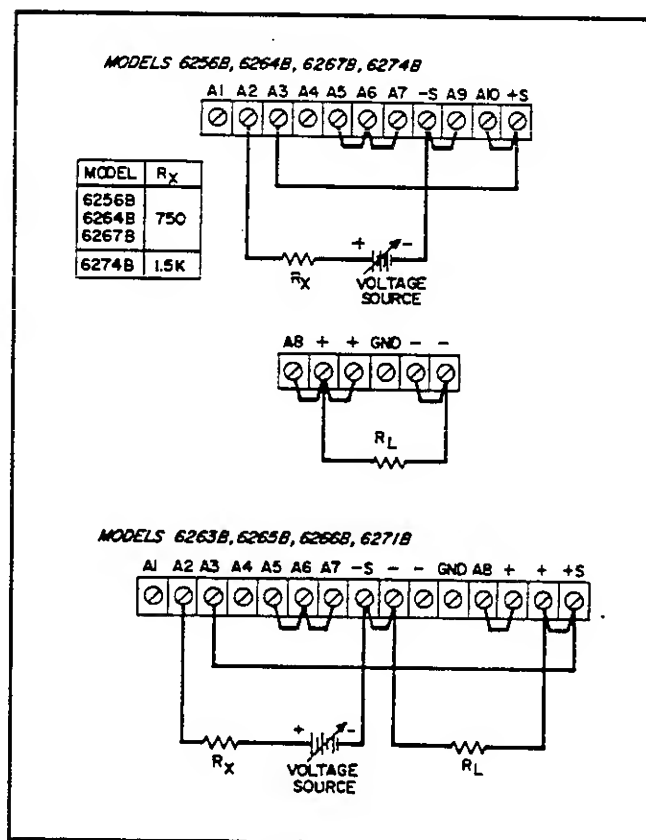

Figure 3-5. Voltage Programming of Output Voltage (Unity Gain)
**3-39 Constant Voltage Output, Voltage Input.** The rear panel connections shown in Figure 3-5 allow the output voltage to be varied by using an external voltage source to program the supply. In this mode, the output voltage varies in a 1 to 1 ratio with the programming voltage. The load on the programming voltage source is less than 20 microamperes. Impedance matching resistor  $R_X$  is required to maintain the temperature coefficient and stability specifications of the supply.